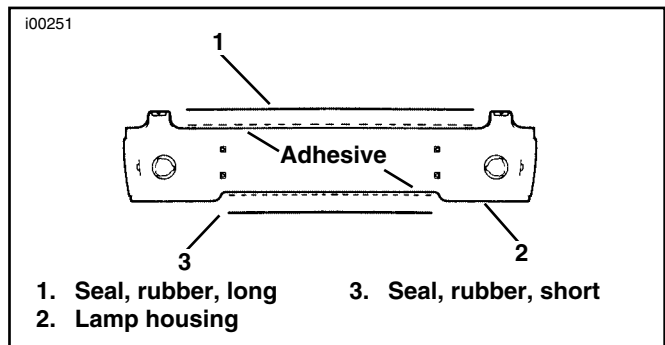

Figure 4. Mounting Sponge Rubber Seal
11. See Figure 4. Lay lamp housing down with back side facing upward. Cut off lip of silicone applicator and thread onto it the top for the silicone tube furnished in kit. Lay a bead of silicone sealant into grooves at top and bottom of lamp housing at areas shown. Seat long piece of sponge rubber seal (1) in silicone at top groove in housing (2). Seat short piece of sponge rubber seal (3) in silicone at bottom groove in housing (2).